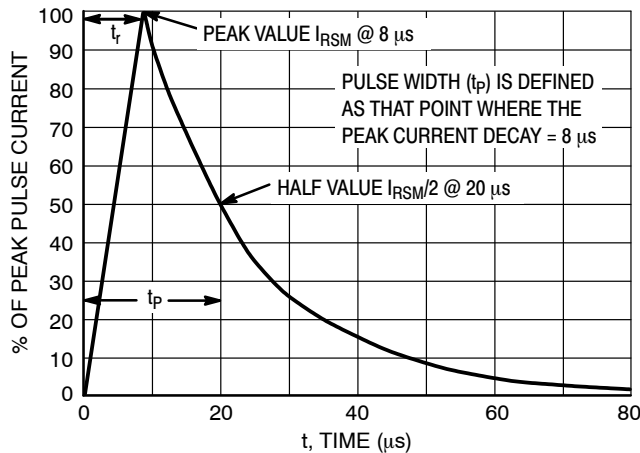

Figure 5. 8 X 20 μs Pulse Waveform
3. Surge current waveform per Figure 5.